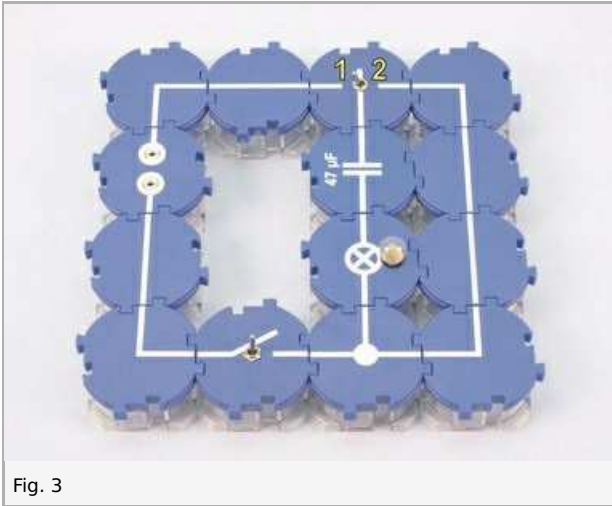
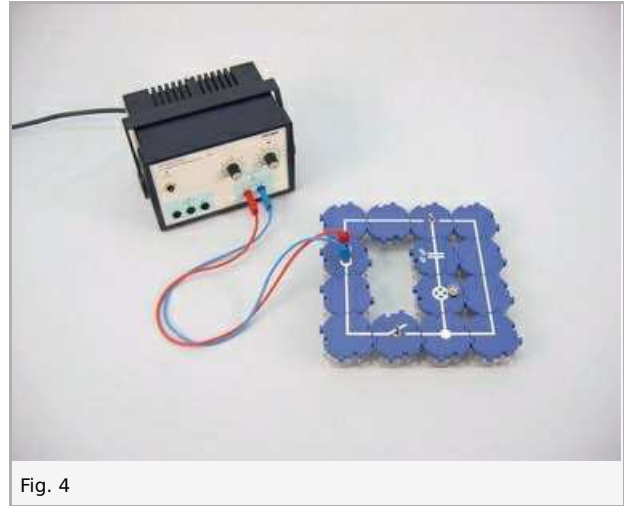

Fig. 3
Fig. 4
- Replace the 470 μF capacitor which is in the circuit with the 47 μF capacitor, as shown in Fig. 3 and Fig. 4. Close the circuit with the on/off switch and repeatedly operate the changeover switch; observe the lamp and note what you observe under Result - Observations 4.